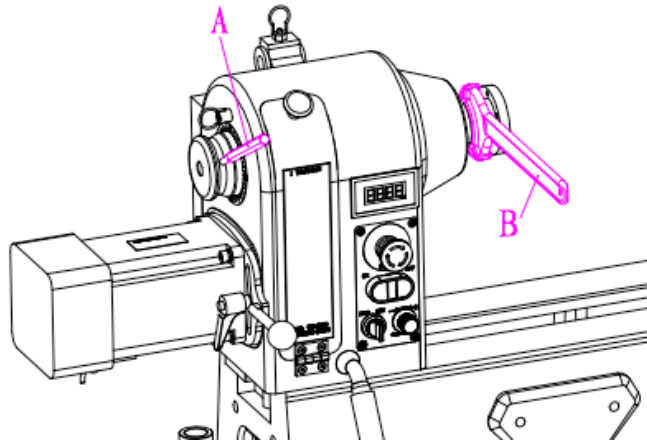

Fig. 16
- 4, Insert lock rod A (Fig.16) into handwheel hole. Hold the rod and tighten the faceplate with faceplate wrench.